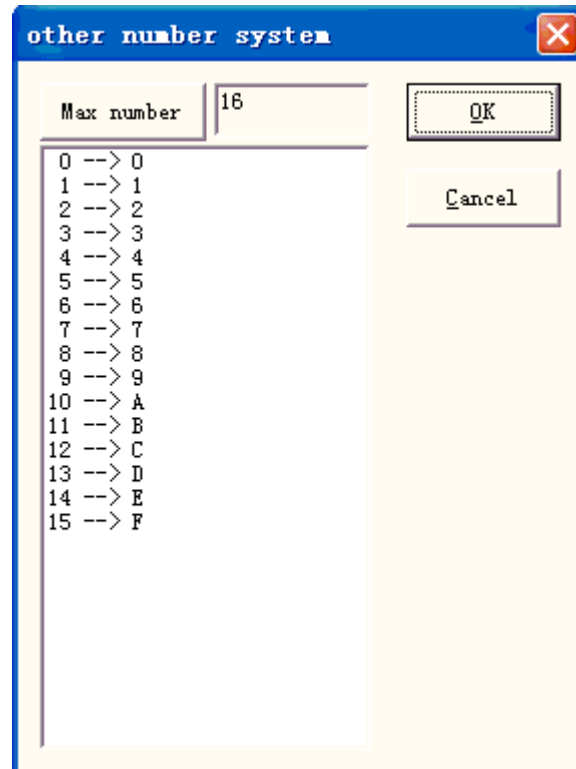

Figure 4-37 User define other number system dialog box
**User define:** The series number carry defines according to user define system, after selecting, the system will display a dialog box like Figure 4-37 shows.